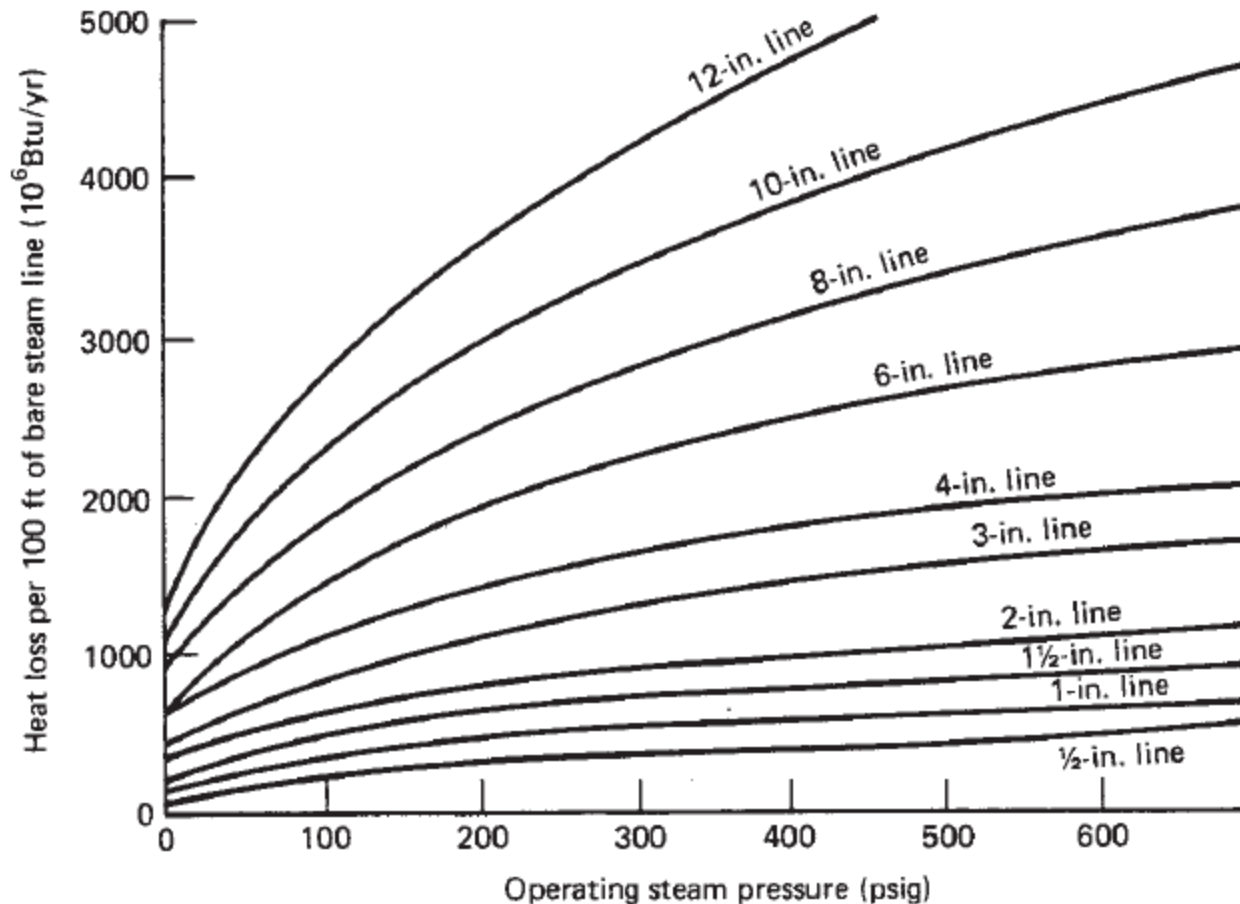

Fig. 6.2 Heat loss from bare steam lines.
- Figure 6.2 illustrates the annual heat loss, based on 24-hr/day, 365-day/yr operation, for **bare** steam lines at various pressures. The figure shows, for example, that a 100-ft run of 6-in. line operating at 100 psig will lose about 1400 million Btu/yr. The economic return on an insulation retrofit can easily be determined with price data obtained from an insulation contractor.